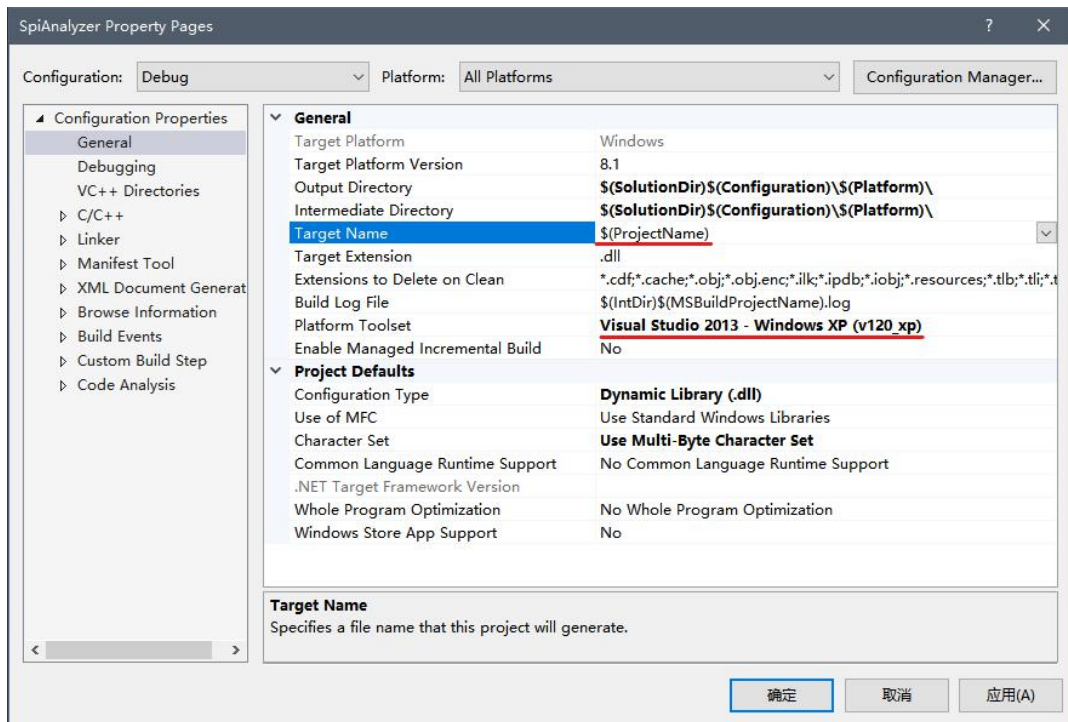

Fig.7
5. After completing the above steps, the project is set up. You can generate the required *.dll* file. Generate 32-bit or 64-bit *.dll* file in **Release** mode, depending on the OS you are using. The generated *.dll* file name can be set in Visual Studio through the menu **Project -> [project name] Properties -> Configuration Properties -> General -> Target Name**, as shown in Figure 7. If no change is made, it will be the same as the project name. If you use a later version of Visual Studio, you also need to modify the **Platform Toolset**.